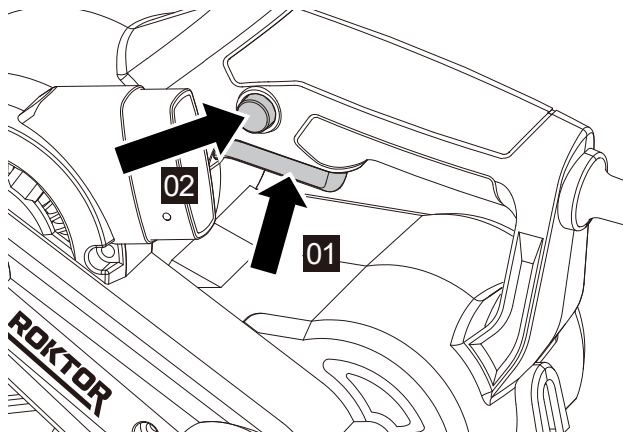

Figure 4
2. SWITCH LOCK-ON BUTTON (SEE FIG. 4)